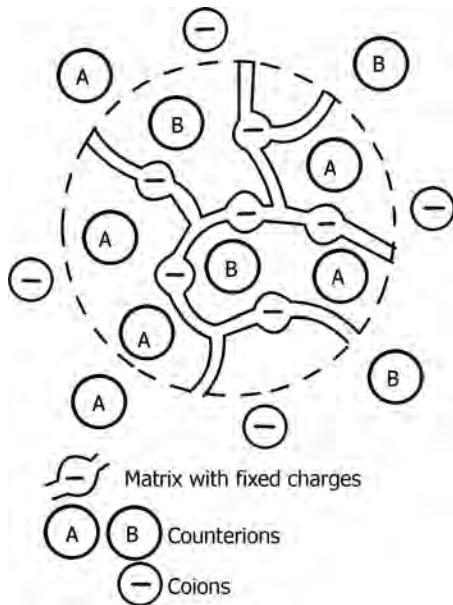

FIGURE 18.43 Ion exchange process in solid ion exchange resin.
- Figure 18.43 illustrates ion exchange process in solid ion resin.